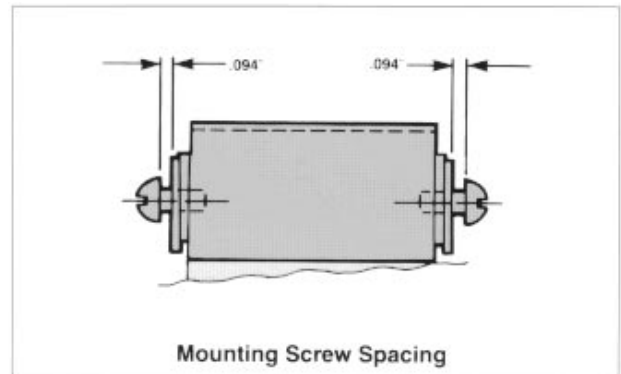

Figure 2
- D. With a screwdriver, turn the screws so they enter the blind holes molded in each side of the toggle handle. Tighten the two screws evenly so that when they engage the bottom of the blind holes, they project an equal distance of .094 in. (Figure 2) above the tapped surface. Do not over torque. Maximum torque 2 in. lb.